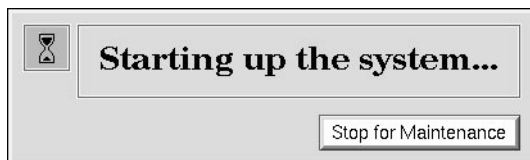

Figure D-2 System Startup Notifier
2. While the system is powering up, you see the notifier shown in Figure D-2 on your monitor screen.